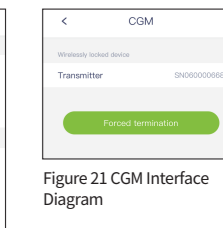

Figure 21 CGM Interface Diagram
- Tap the icon on the top left corner of the home screen or swipe the home screen from left to right to go to the menu. Tap CGM and see the SN of the transmitter when it is in normal connection status to the AnytimeWell, as shown in Figure 21.